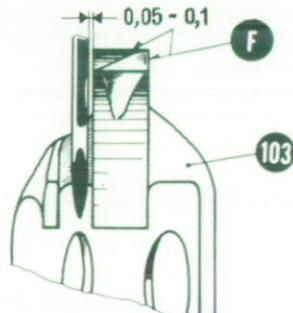
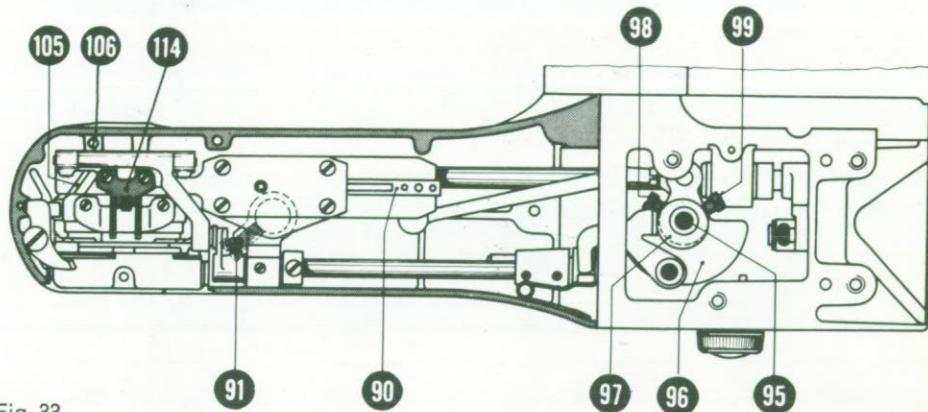

Fig. 32
Fig. 33
Next, check the lateral adjustment of the needle in relation to the shuttle (103). The distance should be 0,05–0,1 mm (Fig. 32). The lateral adjustment is carried out by shifting the shuttle race (105) Fig. 33 and 34.
Unscrew the screw (106) fitted to the rear base wall (accessible from the top left-hand side), and move the whole shuttle race forward or back, according to whether the needle distance is too large or too small. After adjustment retighten screw (106) Fig. 33.